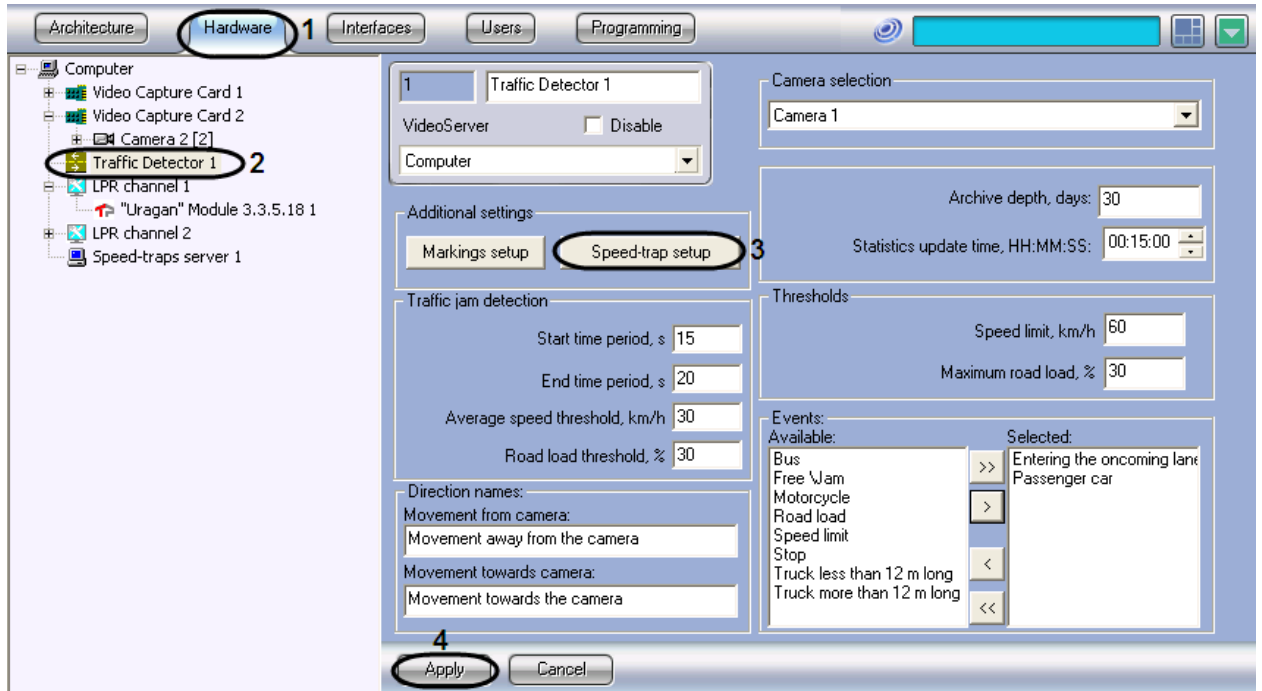

Fig. 7.4-14 Setting up the joint operation of Traffic Detector and Radar
2. In the object tree on the left side of the Hardware tab, select the Traffic Detector object representing the Traffic Detector module to be set up. The settings panel of the selected object will open on the right side of the window (see Fig. 7.4-14).